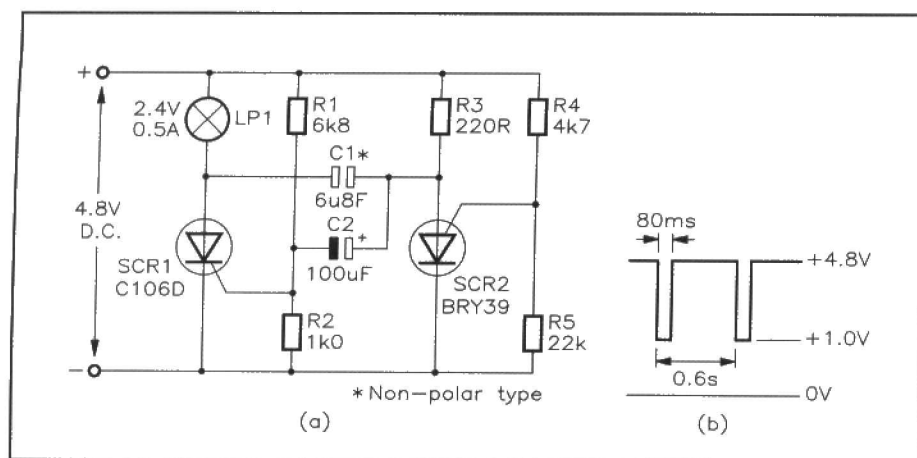

Figure 3: (a) A low voltage DC flasher circuit; (b) waveform at SCR1 anode.
A flasher circuit can be made up using only a few components and operating from a low voltage DC supply. The circuit is shown in Figure 3(a) and uses a conventional C106 SCR and a complementary SCR. The latter differs from the former in the following way.
**Comments:** Substitution of a BRY39 used as described above has caused no problems. Departures from the original circuit involve reducing the values of R4 & R5 by a factor of 10:1 and using a smaller value for the non-polarised capacitor C1. A 25μF type was not available so a 6.8μF, which was the largest in stock, was used instead. Initially a 10Ω resistor was employed for the 1A load, just to check the circuit out, and since a CRO, connected to SCR1 anode, indicated that all was well, a hunt for a suitable lamp was made. This turned up, and a spare 2.4V, 0.5A torch bulb was used. When connected into the circuit and the power switched on, the result was impressive – short, sharp flashes, rather like an aircraft beacon in frequency and apparent intensity. As the waveform of Figure 3(b) shows, pulses occur every 0.6s and last for 80ms, corresponding to a frequency of 1.67Hz. Each negative-going pulse at the SCR1 anode has a peak amplitude of 3.8V